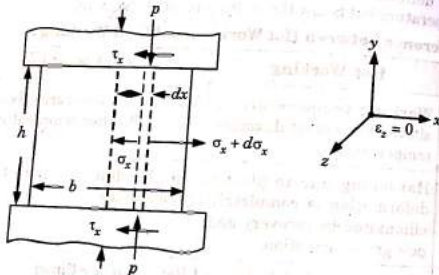

Fig. 1.19.1. Force balance in forging of a strip.
1. Fig. 1.19.1 shows a typical open die plane strain forging of a flat strip. In plane strain, the specimen is not free to flow in the direction perpendicular to the plane of the page.
3. Consider the size of strip under forging operations as $b \times h \times w$, the stresses acting on the element dx of the strip are shown in the Fig. 1.19.1.